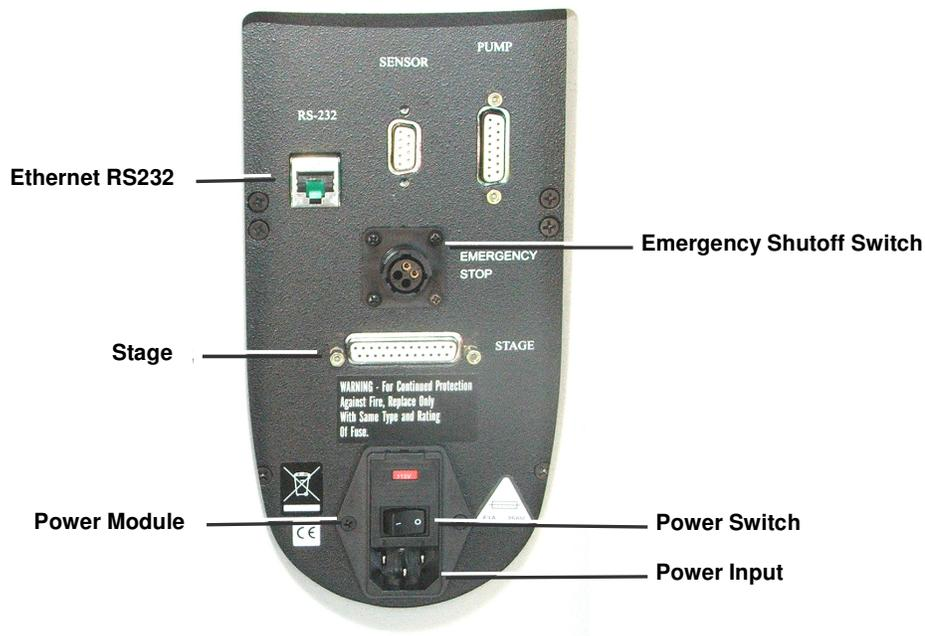

Figure 2-6: Back of Microdispenser
1. Plug one end of the power cord into the power module on the rear of the unit. See Figure 2-6.